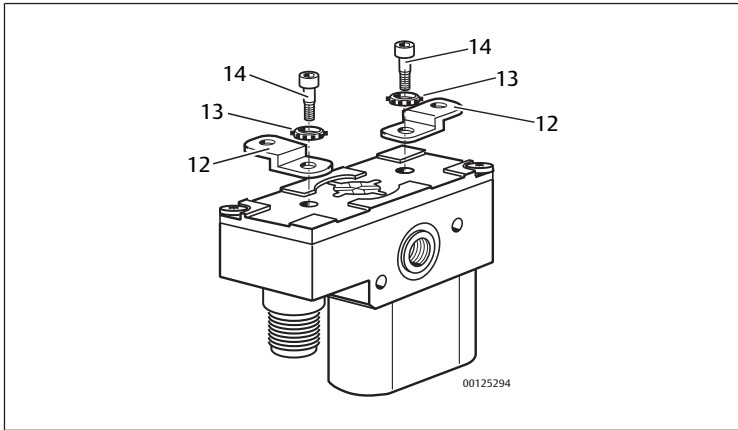

Fig. 2: Mounting kit for mounting plate assembly
- 2x mounting panels (12)
- 2x toothed rings (13)
- 2x cylinder head screws (WS 4) (14), tightening torque: 6 Nm
- Assemble the mounting kit for the mounting plate as shown. See → Fig. 2. The mounting panels (12) catch in the recesses and can thus be aligned in three directions at right angles to the device.